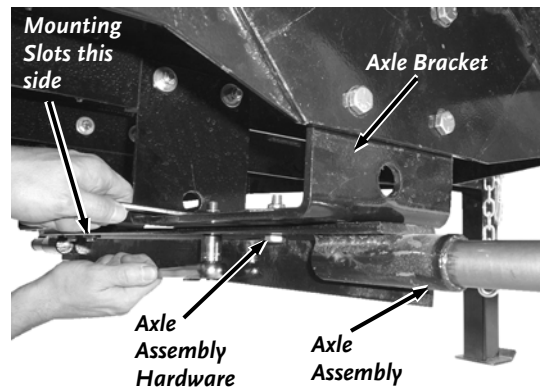

Figure 57
10. Position the new Axle Assembly under the Chipper and secure it to the Axle Brackets with two Bolts, Locknuts and Washers (on the side with slots) and two Bolts and Locknuts (on side with holes) using two 9/16" wrenches (**Figure 57**).